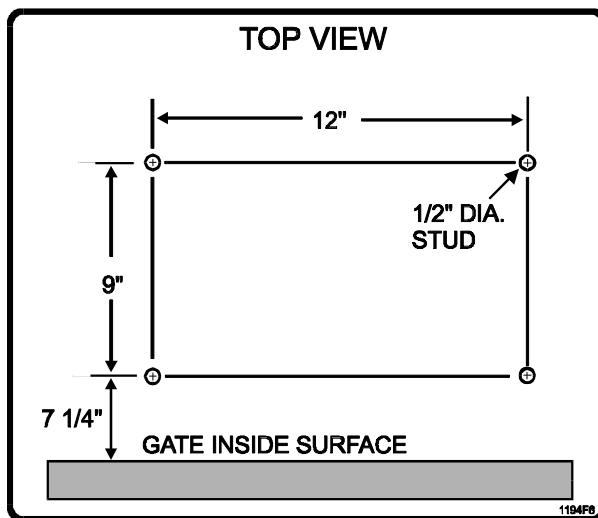

Figure 5. Bolt Down Pattern
3. Four anchor bolts are required to secure the gate operator to the pad. The mounting holes in the gate operator are 5/8" in diameter. 1/2" x 3 1/2" Red Head bolts are recommended (Figure 5).